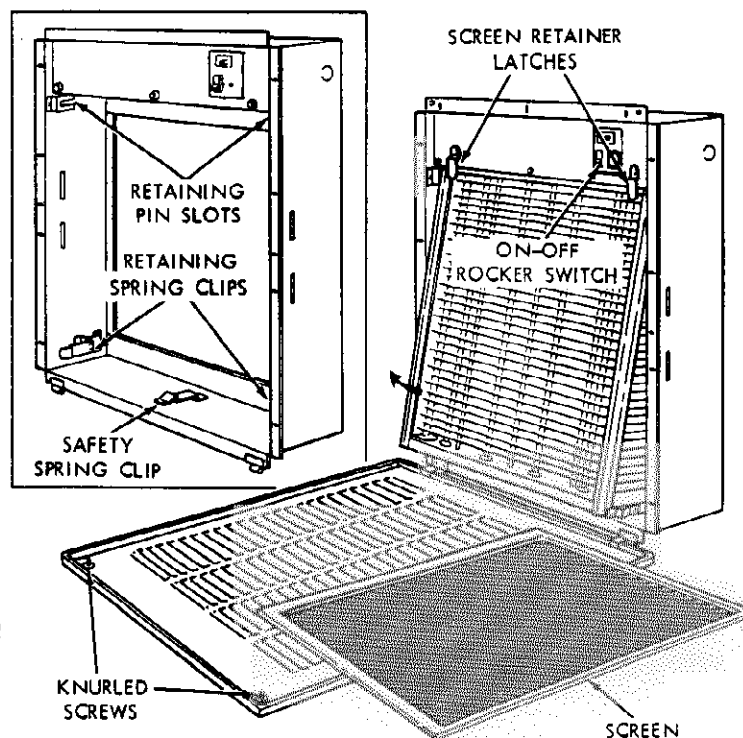

Figure 22
4. Release the two retaining spring clips (one at each side, Figure 22) and pull cell outward until it is stopped by the safety spring clip at bottom center of cabinet.